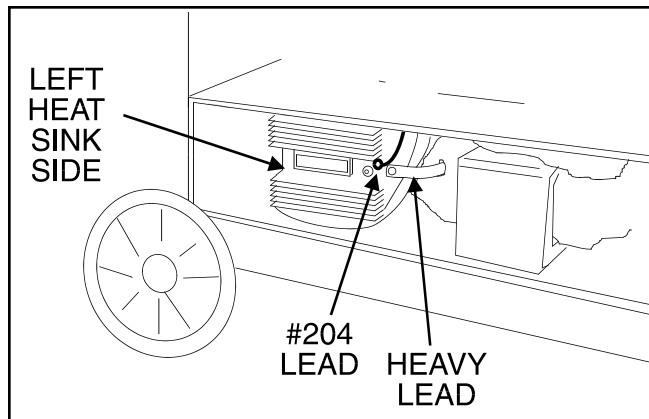

FIGURE F.15 - Heat Sink lead disconnection.
2. Disconnect lead #204 and heavy lead from the middle heat sink with a 1/2" socket wrench and 1/2" open end wrench. See Figure F. 15.